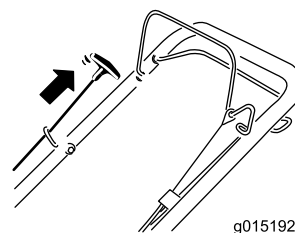

Figure 21
- Hold the blade-control bar against the handle and pull the recoil starter (Figure 21).